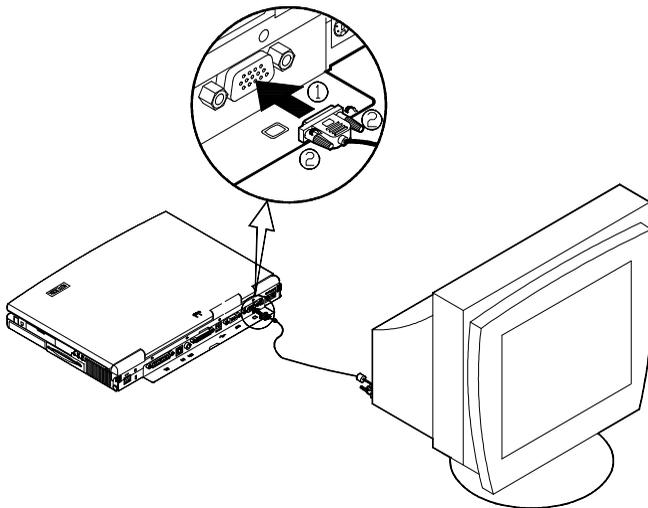

Figure 2-26
- 2** Connect the signal cable of an external monitor to the CRT port on the computer (do ①) and tighten the screws of the connector (do ②) (Figure 2-26).